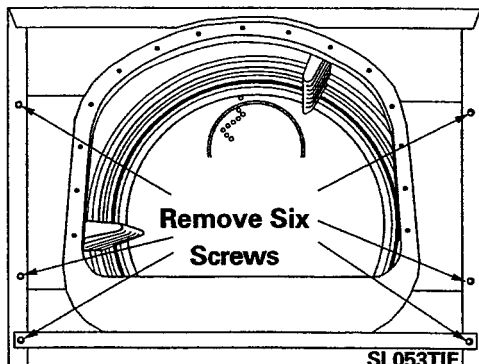

Figure 2-73
- Remove six outer screws holding shroud and tumbler front assembly to the cabinet (*Figure 2-73*). The inner screws on the shroud will aid in reinstallation of shroud.